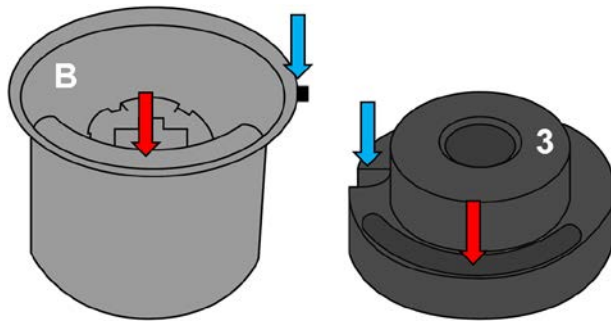

Fig.2
2. For correct positioning of the bushing, the recess in the mounting adaptor (3) must be aligned with the spigot of the new bushing (Fig. 2+3).